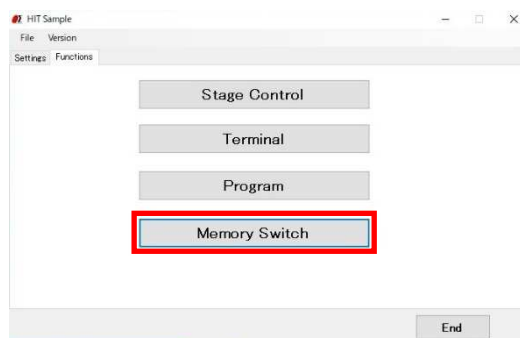

Figure 2-3-2 : Choose a Memory Switch
⑪ Activate SGSample.**⑫ Choose a Memory Switch. (Figure 2-3-2)****⑬ Choose a Upload Memory Switch. (Figure 2-3-3)****⑭ Check IP adress at the bottom right of the screen.**